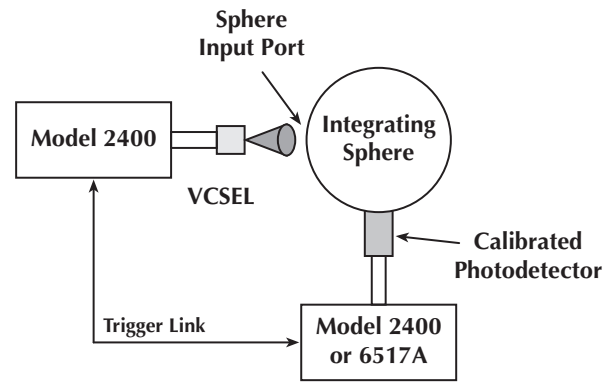

Figure 4. Typical SourceMeter/Electrometer-based Test System for VCSEL Testing.
**Figure 4** illustrates a typical DC characterization system for testing a single VCSEL. In this configuration, the Model 2400 SourceMeter® instrument is connected to the VCSEL. The light output from the device shines through the input port of an integrating sphere. A photodetector (PD), combined with an integrating sphere, is used to determine the amount of optical power the VCSEL is generating. The test fixture is typically kept in the dark to avoid corrupting the results with errors due to ambient light.
Keithley has developed an example Microsoft Visual Basic program in order to perform the VCSEL/PD tests presented by the test system shown in *Figure 4*. To obtain a copy of the program (VCSEL.zip), visit Keithley's World Wide Web site (<http://www.keithley.com>).
The following equipment is needed to configure the system shown in *Figure 4*: